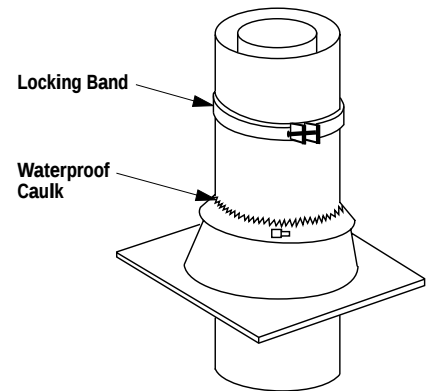

Figure 32
Step 8. The standard Security FTF10 roof flashing assemblies include a storm collar. Slide the storm collar over outer chimney, rest on flashing spacers and align with top surface of flashing. Insert tab in slot, pull tight and bend tab back over slot. Seal storm collar to outer chimney with roof caulking or mastic around entire circumference of pipe. Also add extra roof caulking to the tab/slot area to seal completely against water penetration (**Figure 32**). Check all joints very carefully to ensure no water intrusion can take place.